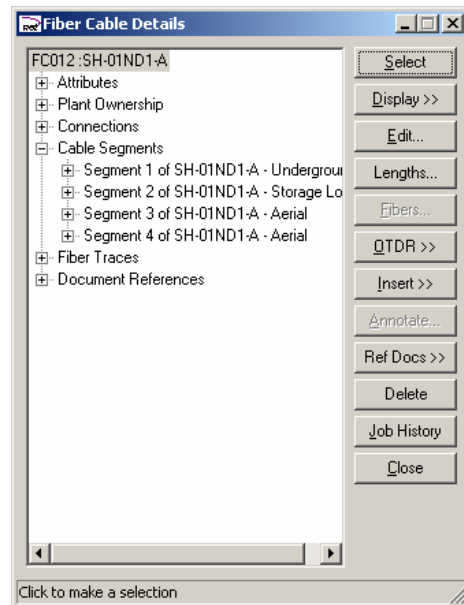

Figure 116 – Details browser of newly completed cable in Fiber Cable Details dialog box.
2. The Storage Loop at the Riser (labeled as **Storage Loop** in Figure 116).